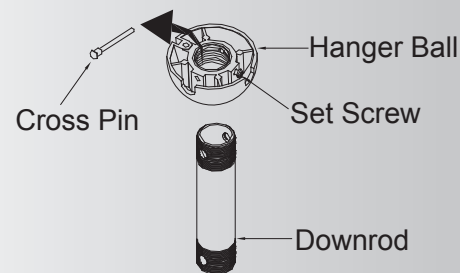

Fig. 6
**Step 2.** Remove the hanger ball from downrod assembly by loosening set screws, removing the cross pin, and sliding ball off the rod. ( Fig. 6)